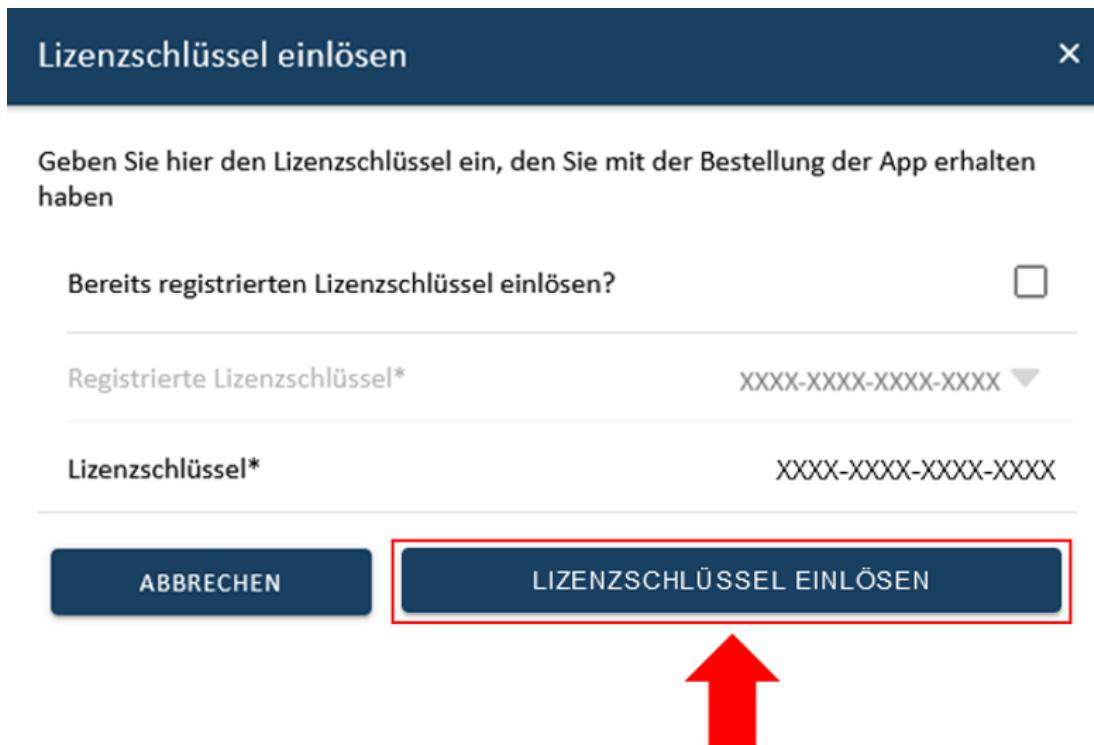

Figure 22. Redeeming a new license key: Step 6
- Figure 22. Redeeming a new license key: Step 6